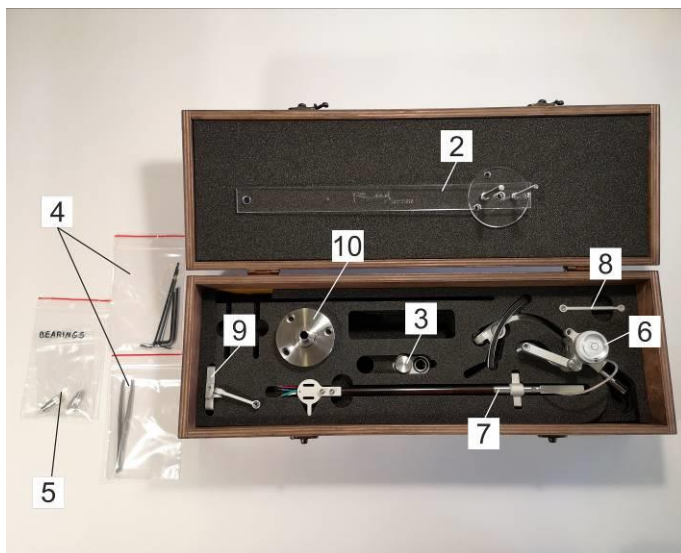
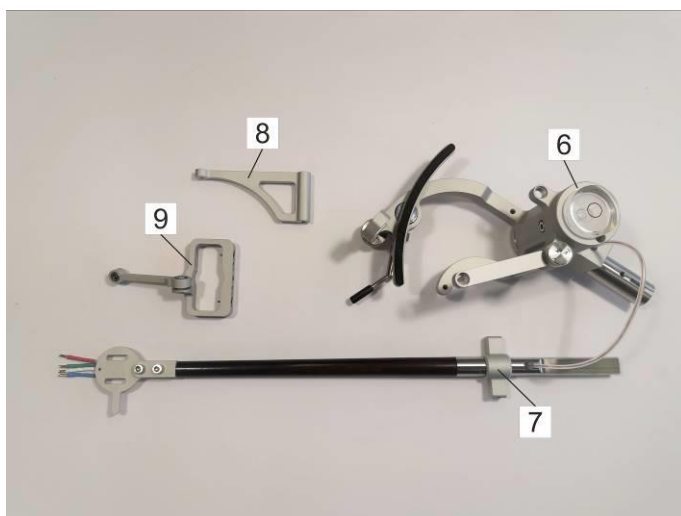
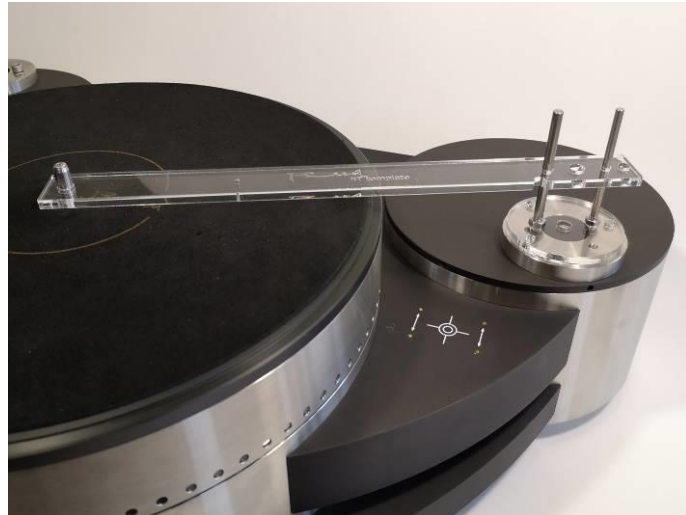
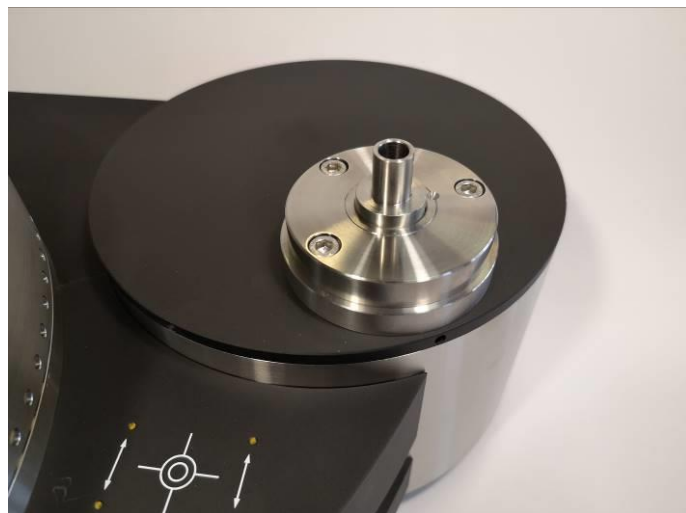

Figure 2
Figure 3
Figure 12
Figure 13
c) Take out the template [2], a counterweight [3], all the accessories [4] and the top bearings [5] (Figure 2).
d) Take out the tonearm parts: tonearm body [6], armwand [7], front link [8] and tonearm frame with lever [9] (Figure 2 and Figure 3).
- g) Take the hex (allen) key from accessories [4] and top bearing [5] (Figure 2). **Top bearing must be screwed out of bearing protection.**
- k) Take the hex (allen) key from accessories [4] and top bearing [5] (Figure 2). **Top bearing must be screwed out of bearing protection.**
Mount the tonearm onto a turntable using template [2] (Figure 2).
- a) On the turntable, mark three tonearm base mounting holes (Figure 12) using Reed mounting drawing and check the position of holes using a Reed template [2] (Figure 2).
- c) Fix the armboard in a designated place using a Reed template (Figure 12).
- d) Take the tonearm base [10] (Figure 2) and set it on the armboard so that the centers of three holes overlap armboard holes. Fix the tonearm base with three M5 screws (Figure 13).
7. Check if the tonearm is mounted correctly with protractor [1] (Figure 1) and template [2] (Figure 2)